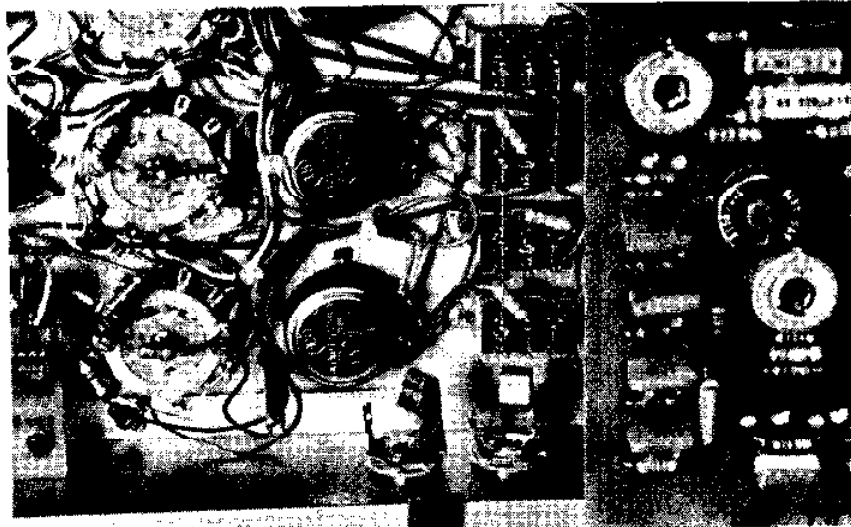

Figure 8
5) Install the two 1/4" open circuit phone jacks such that the connection lugs of the jacks are facing the rear opening of the chassis. See figure 8. Note that the rightmost jack should be turned slightly to avoid any interaction with the nearby potentiometer. After mounting, the jacks will need to be labelled on the outside of the chassis in some manner. I used dry transfer lettering covered with a layer of clear vinyl tape, such as Scotch Magic Transparent tape. The leftmost jack should be labelled "Gate In/Out", or designated with a gate symbol,  $\square$ . The right jack should be labelled "KBD CV Out" or similar.